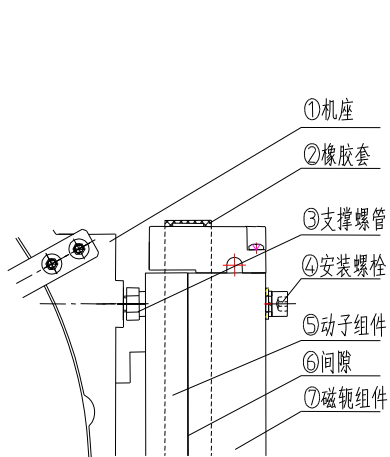
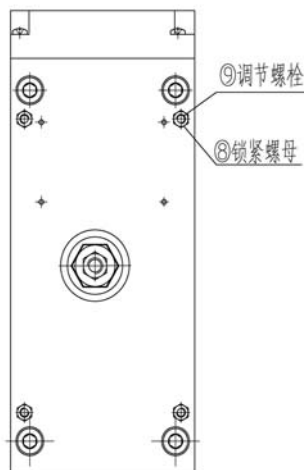

Fig. 20 Brake's components
Fig. 21 Noise reducing mechanism of brake
The air gap between brake lining and rotator can be adjusted by adjusting the brake's air gap ⑥ as shown in Fig.20 to Fig.21 on P16. Rotor ⑤ and magnetic yoke ⑦ are connected with four installation bolts ④ and fixed onto machine base ① with four supporting screw tubes ③ (installation bolts are threaded through screw tubes). Regulate the brake's air gap ⑥ by adjusting the supporting screw tubes and installation bolts; use the rubber sleeve ② to protect the brake's air gap; control the brake's noise through tightening bolt ⑧ and adjustment bolt ⑨.
As shown in Fig.20-Fig.21, when the brake's air gap is not within the required range, the gap needs to be adjusted with an open-end wrench 19# (for adjusting supporting screw tubes), feeler gauge, and Allen wrench 8# (for adjusting installation bolts).